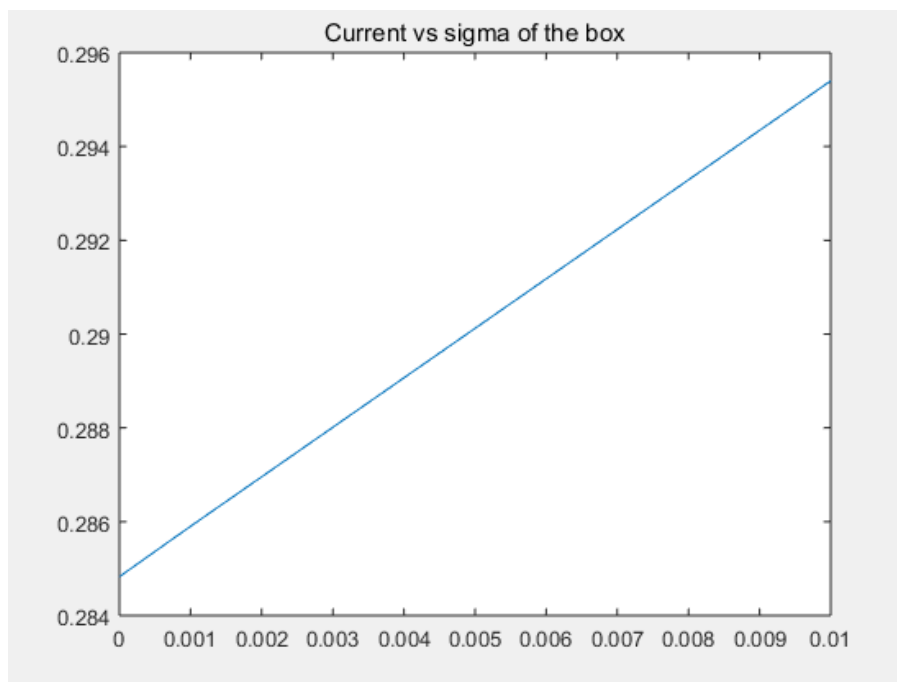

Figure 11: Current vs sigma of the box
- d) As the conductivity of the box becomes larger, the current coming out from the right side of the conductor gets larger. The graph of current vs the conductivity of box is shown in Figure 11 below.